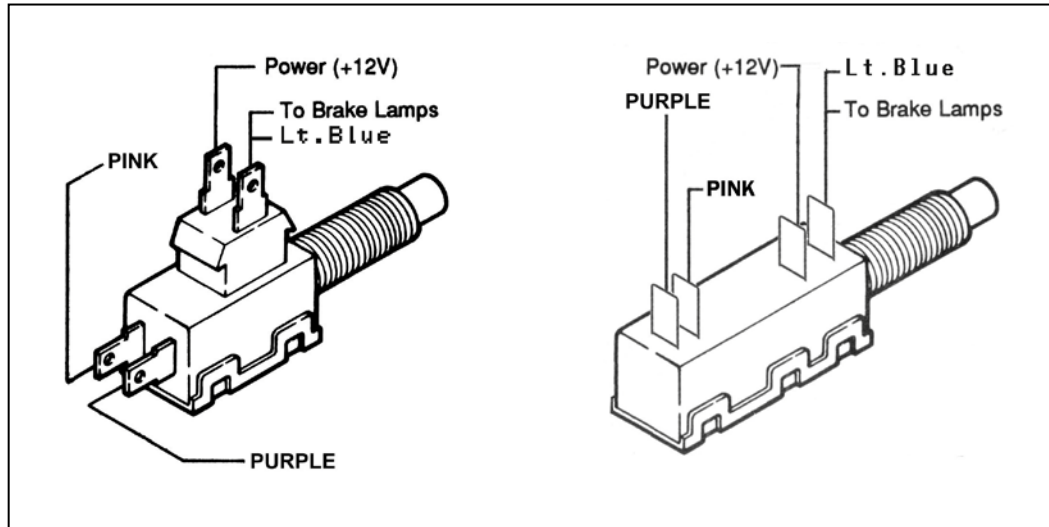

FIGURE 6.2 Brake Switch Connections
- F.** The Purple, Pink and Lt.Blue wires labeled BRAKE SWITCH are the wires that connect to the brake switch. The Purple and Pink wires are connected to the normally closed side of the brake switch. Pink is power and Purple is signal to let the computer know when the brake is applied. These wires must be connected so the lock up function of the torque converter and/or cruise control will operate correctly. Connect the Lt. Blue wire to the normally open brake lamp side of the brake switch regardless of which transmission you are using. See **Figure 6.2**.